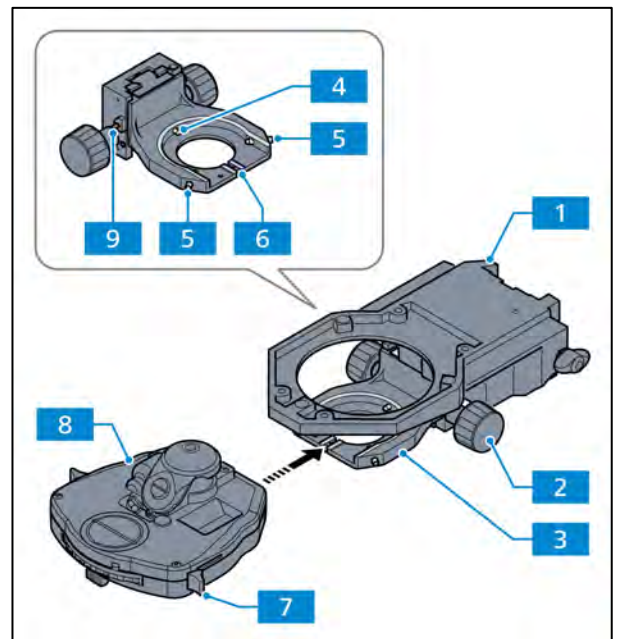

Fig. 3-22 Mounting the condenser
- Unscrew both centering screws (Fig. 3-22/5) on the condenser carrier until you cannot see the end parts anymore.
- Unscrew the clamping screw (Fig. 3-22/9) on the right side of the condenser carrier until the maximum vertical adjusting range is usable.
- Slide the condenser carrier (Fig. 3-22/3) with the knurled knob for vertical adjustment (Fig. 3-22/2) all the way down.
- Open the front lens (if switchable) on the condenser using the lever (Fig. 3-22/7).
- Insert the condenser (Fig. 3-22/8) between the condenser carrier (Fig. 3-22/3) and the stage carrier (Fig. 3-22/1). Adjust the guide pin on the bottom of the condenser in the direction of the slot (Fig. 3-22/6).
- Push the condenser with the dovetail ring against the spring box (Fig. 3-22/4) of the condenser carrier until the condenser can be placed on the condenser carrier horizontally.
- Release the condenser and its pin screw will slide into the front slot (Fig. 3-22/6).
- Screw in the clamping screw (Fig. 3-22/9) without clamping the vertical drive.